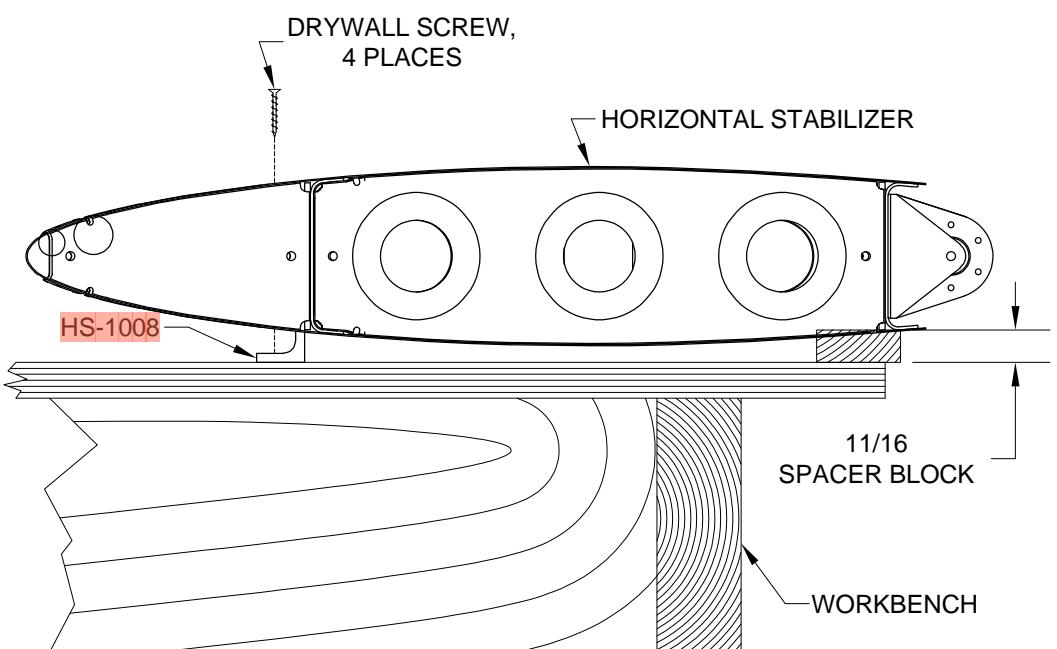

FIGURE 2: HORIZONTAL STABILIZER SETUP
Step 2: Attach the horizontal stabilizer to the workbench using four "drywall" type screws as shown in Figure 2. Position the stabilizer on the workbench such that the tips hang over the edges of the workbench. The overhang is necessary so that the elevator counterbalance arms will clear. See Figure 4. The screws are installed through the holes in the HS-1008 Horizontal Stabilizer Front Spar Attachment Brackets into the surface of the workbench. Rest the rear spar of the horizontal stabilizer on a spacer block as shown in Figure 2 to hold the horizontal stabilizer in its correct orientation.